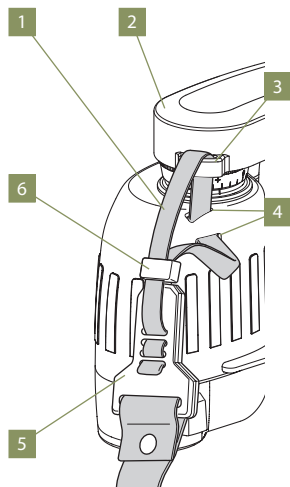

Fig. 7
**With one exception:** Only thread through the loop on the rain cover on one side, see Fig. 7.